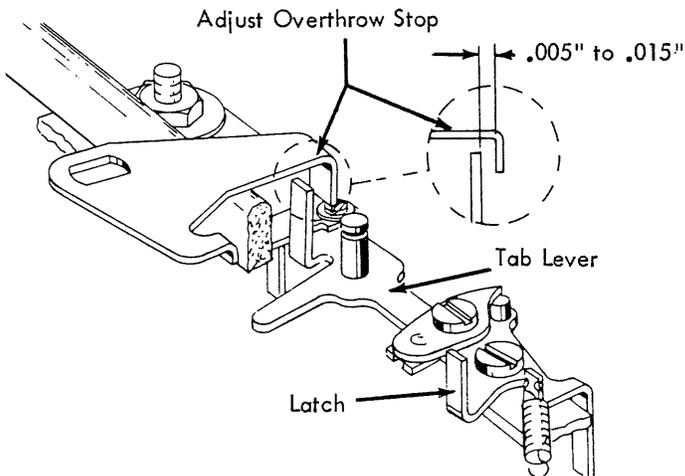

FIGURE 171. Tab Lever Overthrow Stop
11. Tab Lever Overthrow Stop (Early) (Fig. 171) - Adjust forward or back so that .005" to .015" clearance exists between the lug of the tab lever and the overthrow stop when the tab lever is latched to the rear.